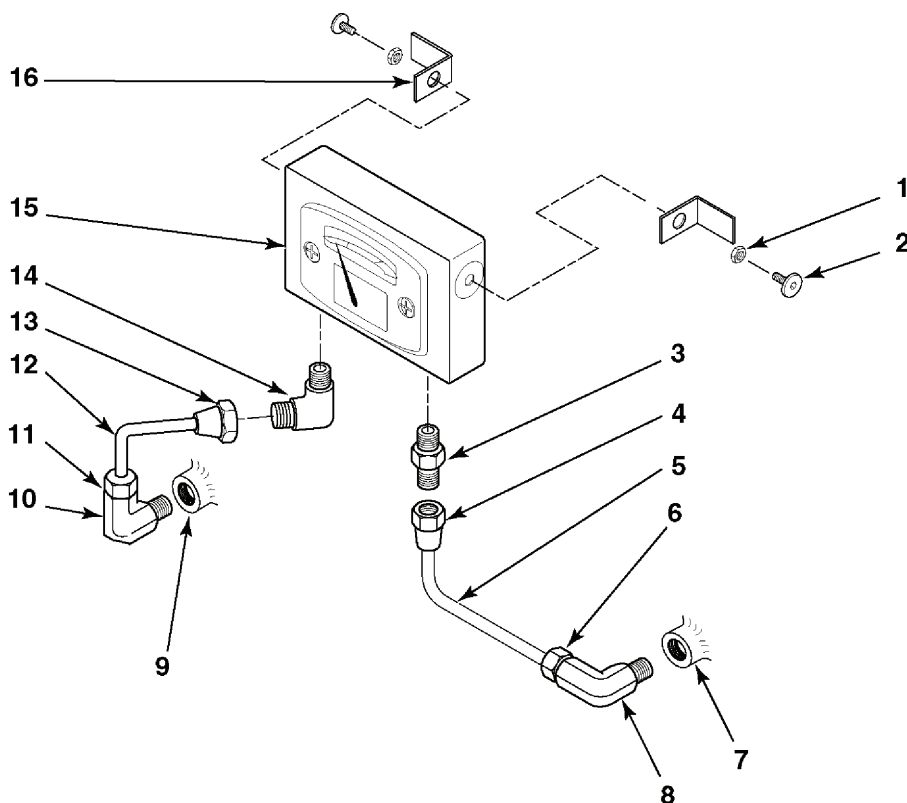

Figure 1. Differential Pressure Gauge Replacement
1. Unscrew two tube nuts (figure 1, 4) and (13) and disconnect from adapter (3) and elbow (14).
2. Remove two bolts (2) and two nuts (1) to remove differential pressure gauge (15) from brackets (16).
3. Remove adapter (3) and elbow (14) from differential pressure gauge (15).
4. Unscrew two tube nuts (6) and (11) and remove tube elbows (5) and (12) from elbows (8) and (10).
5. Unscrew elbows (8) and (10) from vessel ports (7) and (9).